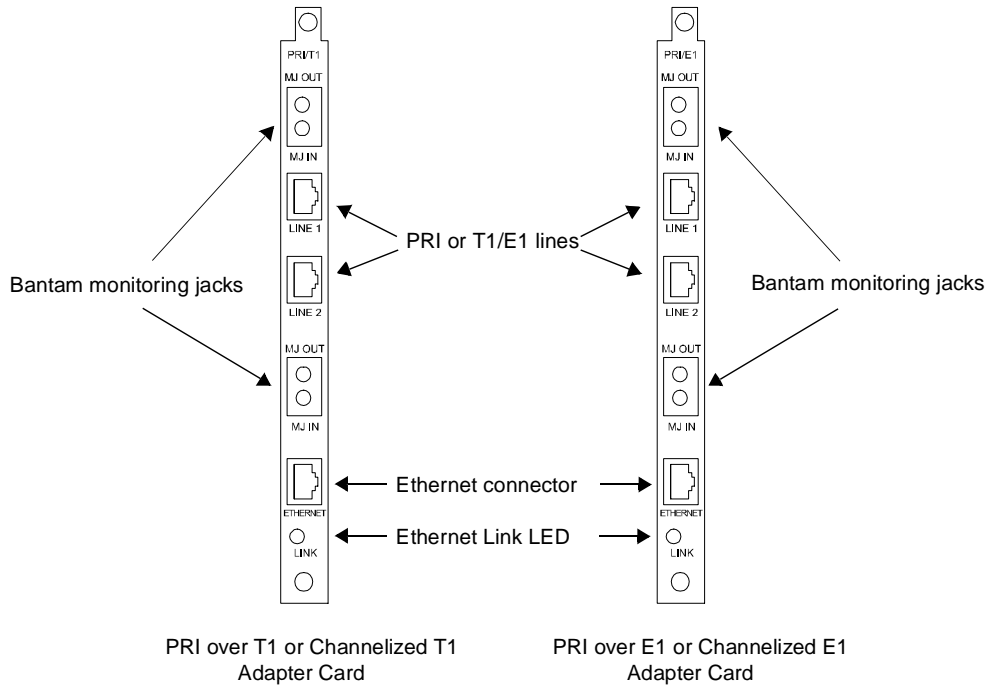
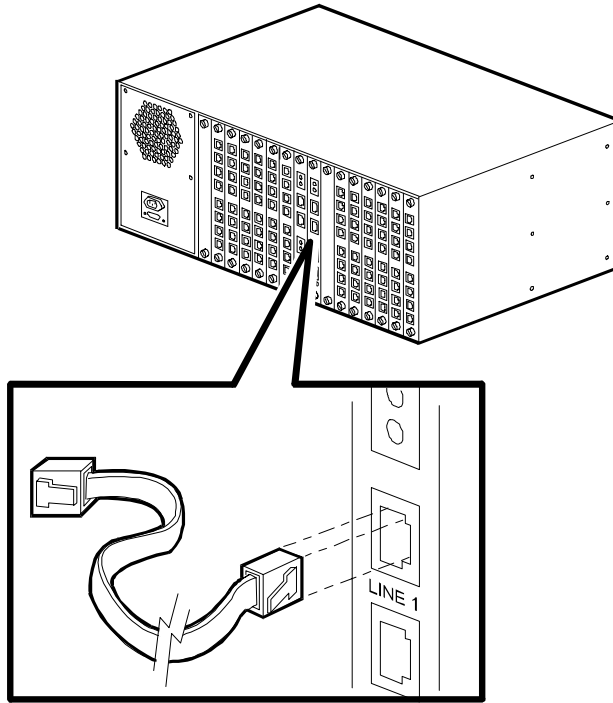

Figure 2-3. The PRI Adapter Cards
Figure 2-4. Attaching the Cables to the PRI Adapter Card
5. Attach one RJ48 cable to the Line 1 RJ48 jack as shown in Figure 2-4. Attach a second RJ48 cable to the Line 2 RJ48 jack. The connectors on the PRI adapter card are shown in Figure 2-3.